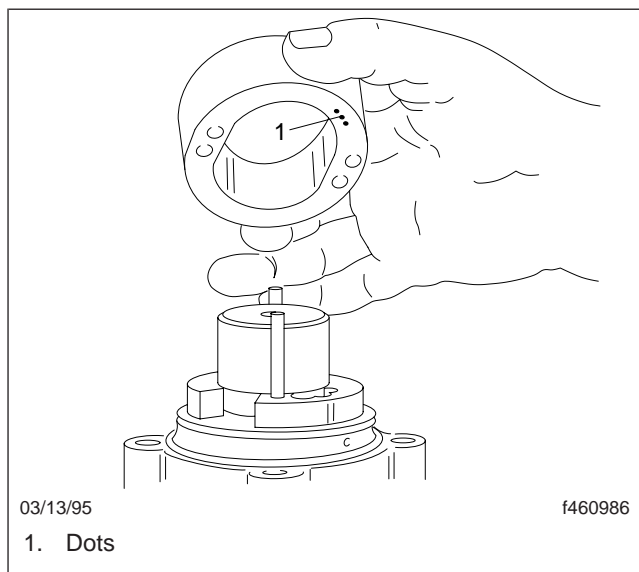

Fig. 10, Checking Whether the Dots are Up or Down.
9. Holding the bottom plate in place, remove the cam ring. Note and record whether the dots near the locating pin holes on the cam ring are up or down. See Fig. 10.